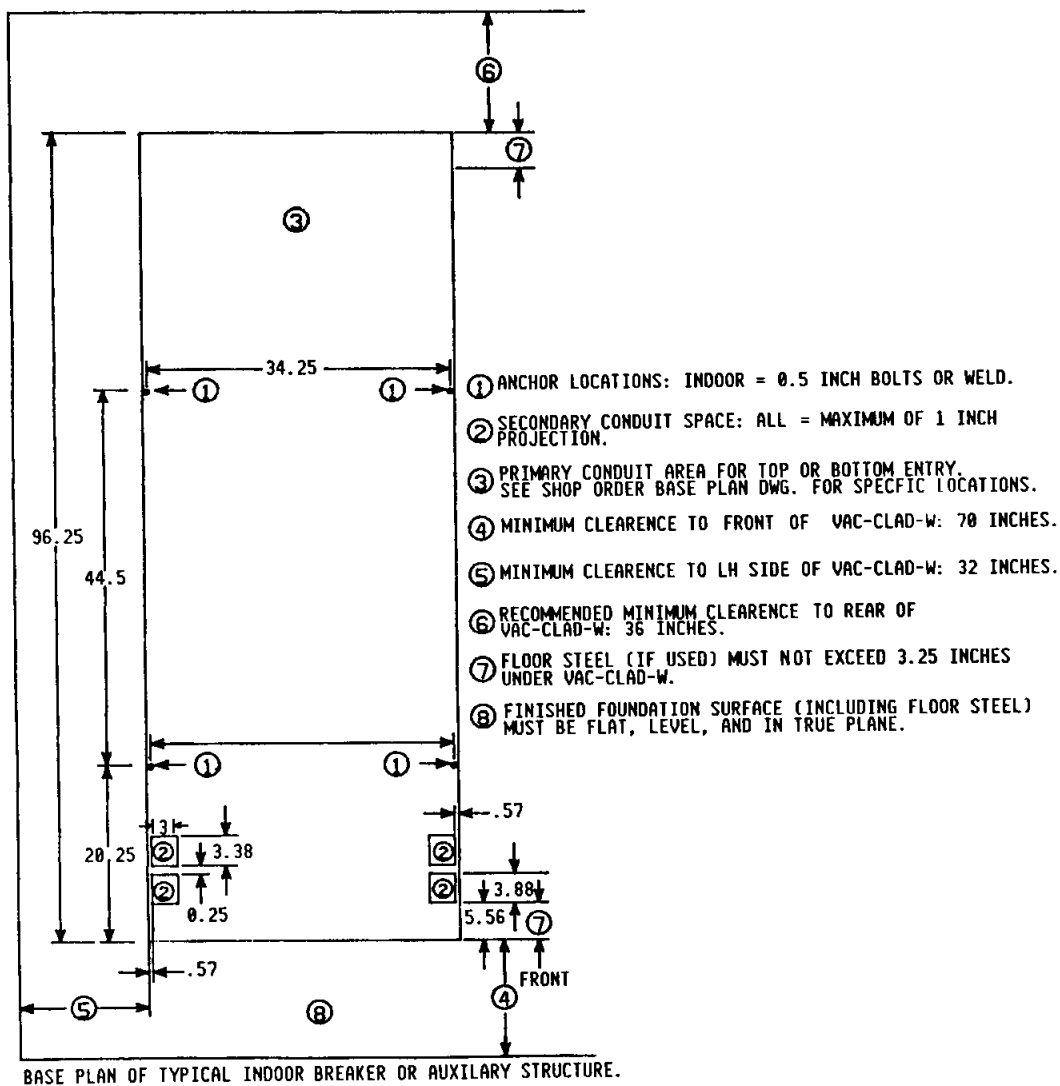

Fig. 2
A. Locate the switchgear so there is enough aisle space at the front and rear of the system. The amount of space recommended is shown in Fig. 2.
THE MINIMUM CLEARANCES ARE SHOWN IN FIG. 2. REFER TO THE FLOOR PLAN DRAWING FURNISHED WITH EACH ORDER.